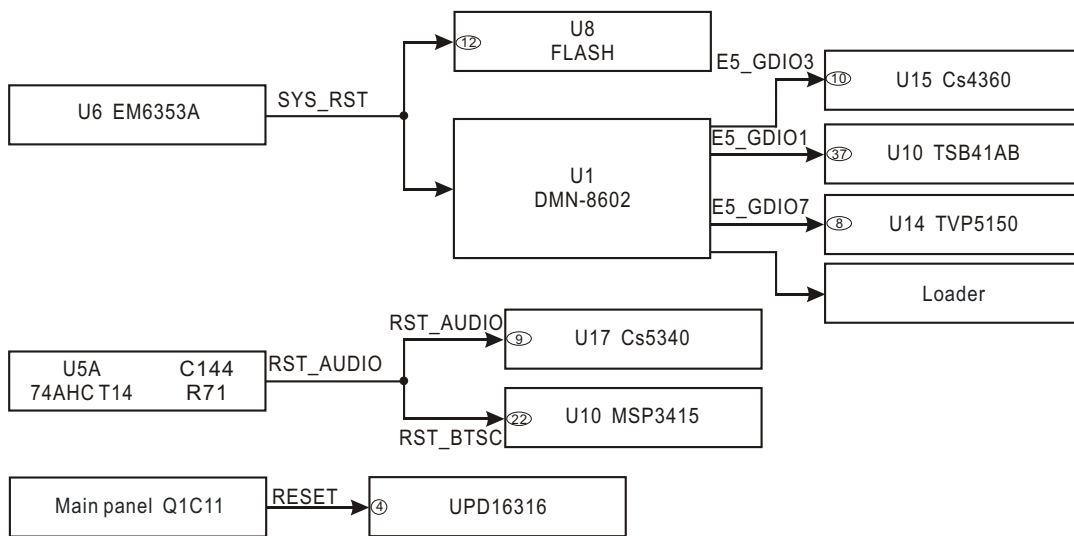

Figure 3.2.6.1 Reset circuit block diagram
1. Reset circuit block diagram is shown in the figure 3.2.6.1: